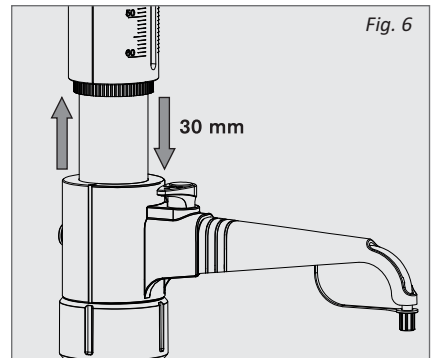

Fig. 6
2. Slowly pull up the piston and push it down rapidly till the end. Repeat this process until air bubbles disappear from the cylinder. (Fig. 6)
3. Slowly pull up the piston and push it down rapidly till the end. Repeat this process until air bubbles disappear from the cylinder. (Fig. 6)